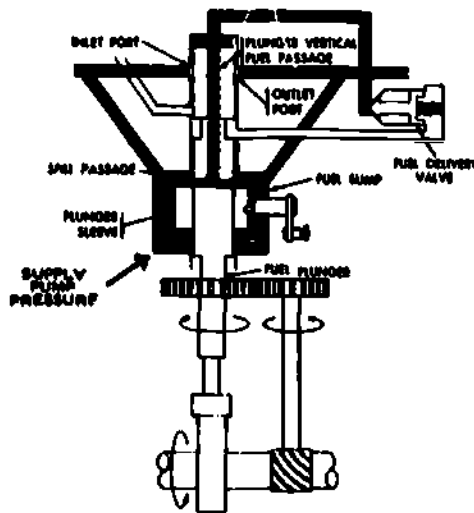

Fig 3-17. End of delivery phase.
- (4) **End of delivery** (fig 3-17). At the fourth or end of delivery phase the plunger has moved up to the point where the spill passage just clears the top of the plunger sleeve. The high pressure fuel then escapes down the vertical fuel passage in the plunger and out the spill passage. This reduces the high pressure, allowing the spring pressure to close the fuel delivery valve. Some fuel pressure, called residual line pressure, is trapped in the line to the injector nozzle. This assures a positive and accurate delivery for the next injection. Remember, we have discussed the fuel delivery to only one cylinder. Fuel for each of the other five cylinders will go through the same four phases explained above.